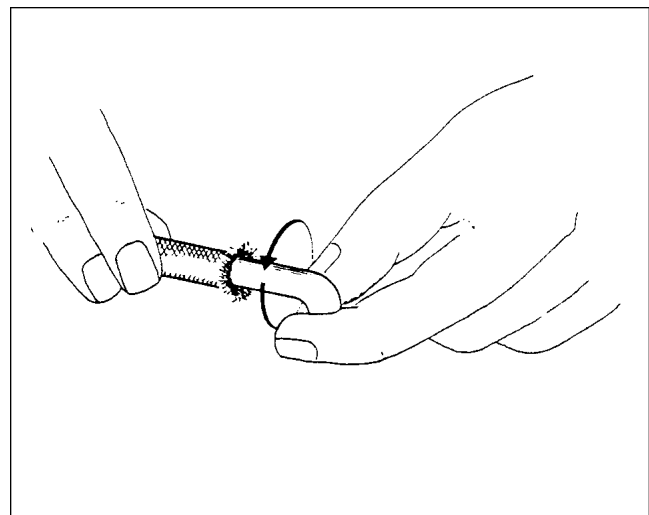

Figure 8-26. Flaring out the Shielding
h. After installation of nut and ferrule, bend and rotate the silicone insulation as Illustrated in Figure 8-26 to flare out the shielding so a drive ferrule can be inserted. **Take care not to cut the silicone insulation with the sharp braiding while the wire is being rotated.** (Refer to Figure 8-26.)